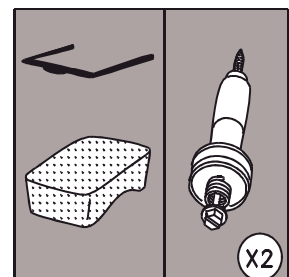

Fig 6
- Make sure that you have removed all these parts from your washing machine and keep them so that you can use them again if you need them for future transport (fig. 6).